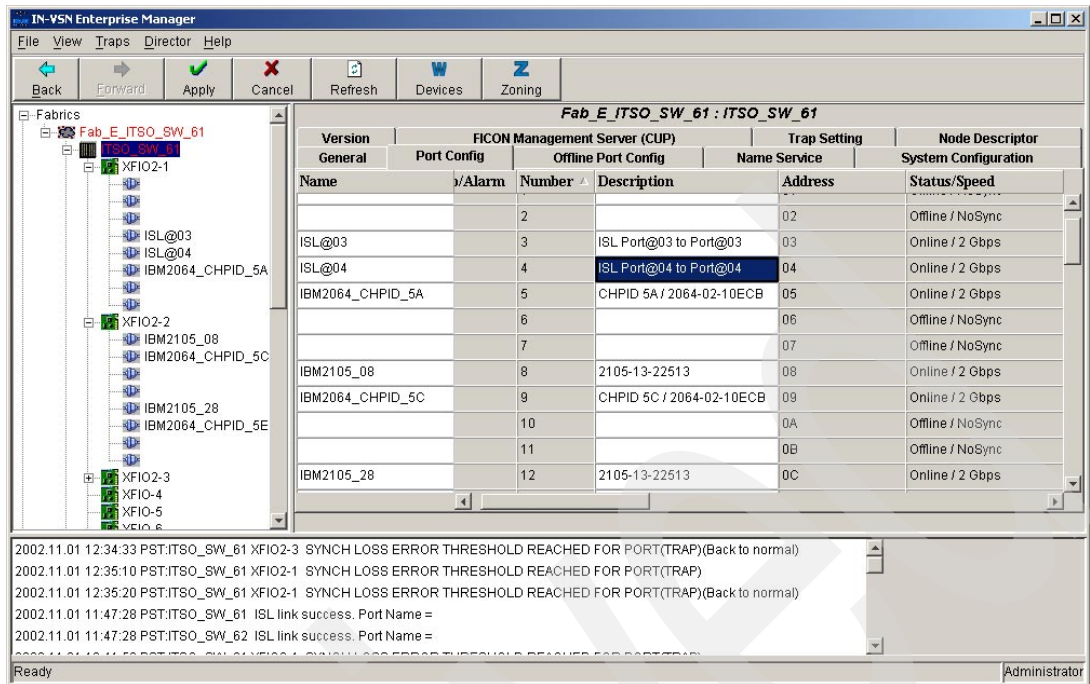

Figure 5-16 Port Configuration panel
8. The Port Configuration panel should now display all your settings for the ports. See the sample screen in Figure 5-16.